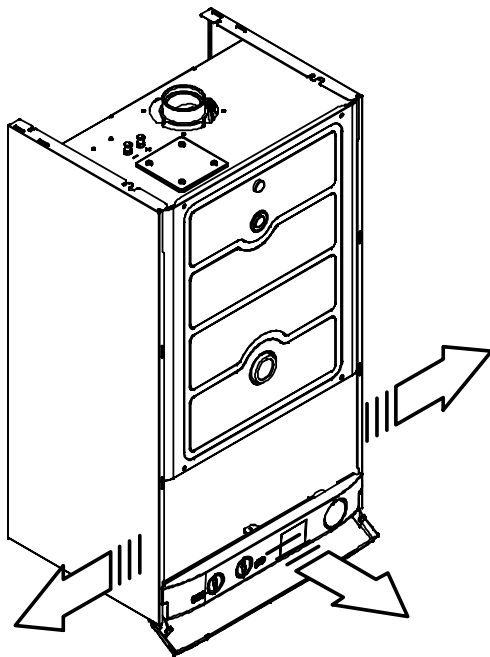

Fig. 6.12
- 4 Remove the side panels or move the lower part of the side panels as indicated in Fig. 6.12 and pull the control panel. When completely pulled out, the panel can rotate 45° downwards to facilitate the operations on the internal parts.